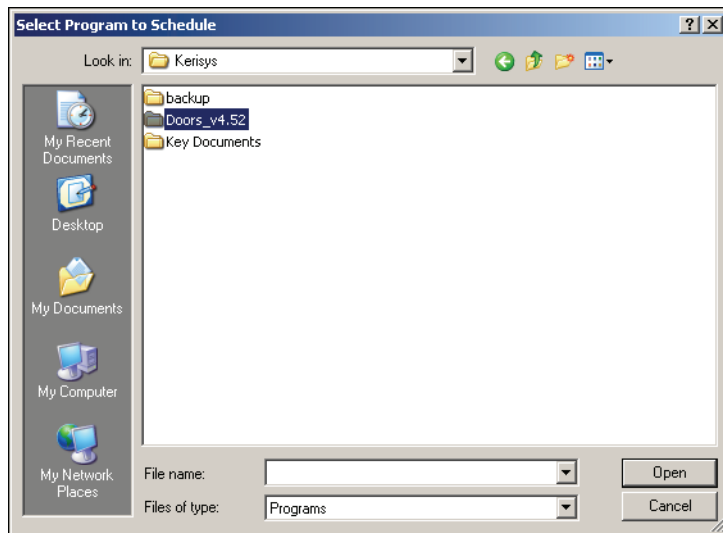

Figure 5-28: Select Program to Schedule - Kerisys Folder
7. Select Kerisys, then click on the  button (or double-click on the **Kerisys** option). The Kerisys folder will open (see Figure 5-28).